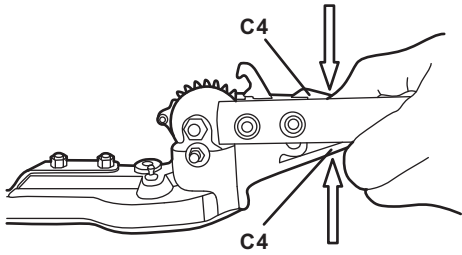

Fig. 18a
- 1. Depress the unlock levers (C4) with one hand and hold them in position. (See Fig. 18a)